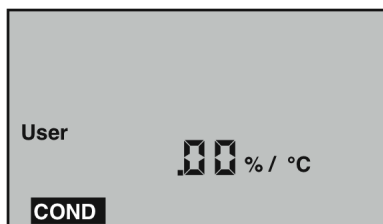

Figure 3
- b. With “User” selected, press $\left(\frac{\text{CAL}}{\text{MCLR}}\right)$. If the display does not show .00%/°C, hold $\left(\frac{\text{MR}}{\blacktriangledown}\right)$ long enough to bring the tempco to .00%/°C (see Figure 3).